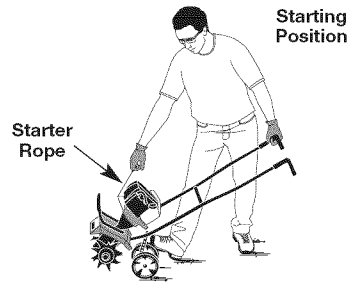

Fig. 10
WARNING: Avoid accidental starting. Make sure to be in the starting position when pulling the starter rope (Fig. 10). To avoid serious injury, the operator and unit must be in a stable position while starting.
4. Hold the handlebar with one hand and grab the starter rope with the other hand, **do not squeeze the throttle control** (Fig. 10). Using one foot to hold down the cultivator. Pull the starter rope 5 times.